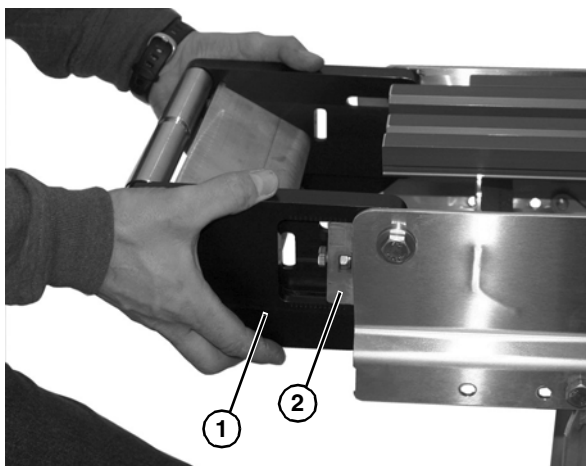

Figure 67
2. Slide the transfer tail (Figure 67, item 1) off the pivot tail blocks (Figure 67, item 2).